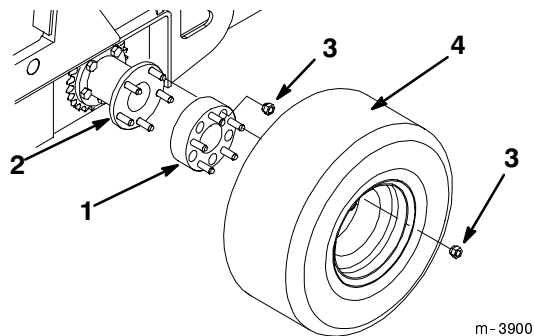

Figure 3
3. Slide the wheel spacers onto the studs on the wheel hub and secure them with lug nuts (Fig. 3). Torque the lug nuts to 55 ft-lbs (75 N·m).
4. Install two new wheels on the studs on the rear wheel spacers and secure them with lug nuts (Fig. 3). Torque the lug nuts to 55 ft-lbs (75 N·m).
8. Install two new front wheels on the studs on the front wheel spacers and secure them with lug nuts (Fig. 3). Torque the lug nuts to 55 ft-lbs (75 N·m).